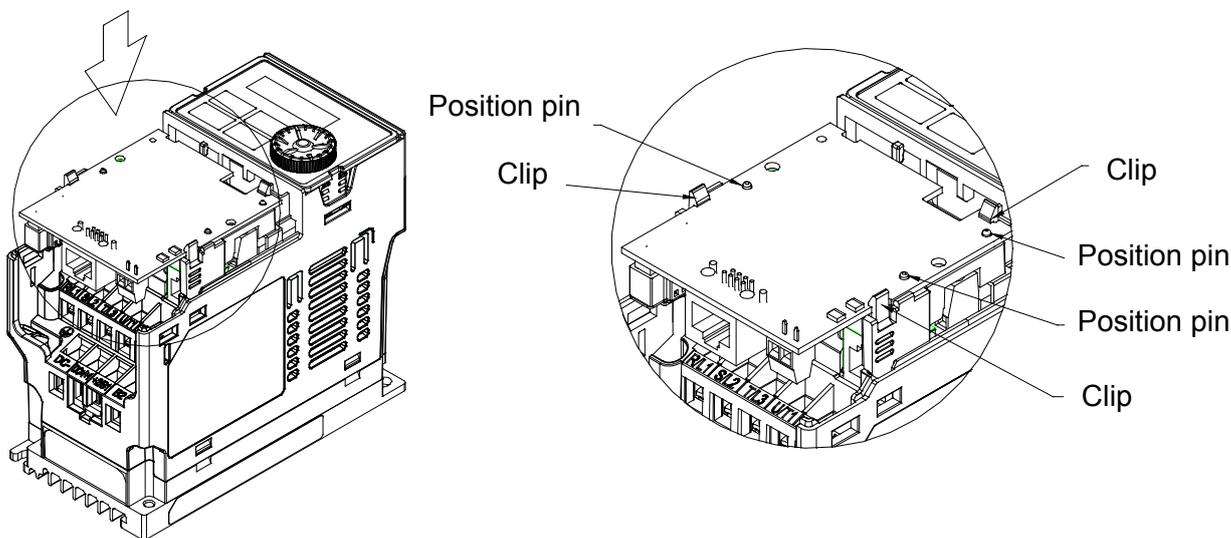

Fig. 4
- After the wiring is completed, loosen the communication card of the front mounting, and reverse-mounted, aim the three holes at the positioning pin, press the pin to clip the holes with the communication card. (shown in Fig. 4)